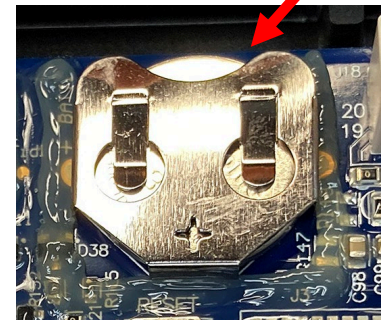

Figure 12
14. Ensure the battery is completely inserted into the battery holder (see Figure 12).